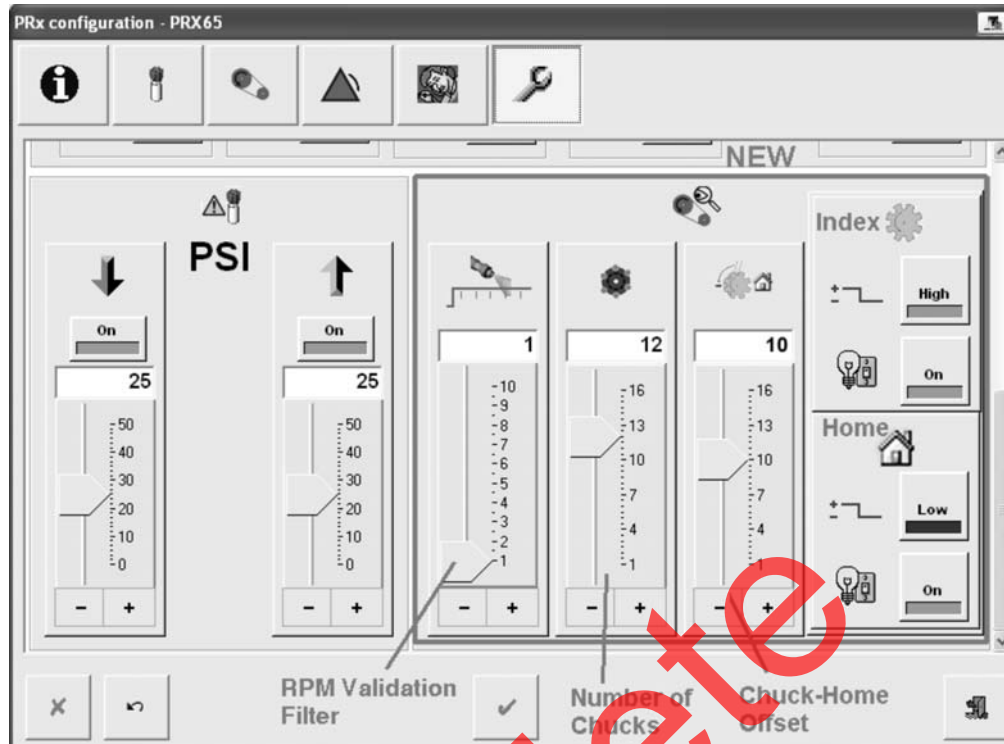

Figure 9 PRx Configuration Service Screen (for the case in Figure 8)
3. See Figure 9. Through the iTRAX OI, go to the PRx configuration *Service Screen* to customize the settings for *Chuck-Home Offset*.
To be sure that the alarms correspond with the correct readings at a chuck spinner, the *RPM Validation Filter* (shown in Figure 9) allows the PRx module to differentiate between readings that are taken before the chuck spinner has had enough time to reach the desired spin speed. The *RPM Validation Filter* defines which RPM measurement is the first to be accepted and applied to the alarm criteria during the spray duration. The *RPM Validation Filter* number and all the readings following that number for the duration of the spray cycle are applied against the alarm criteria.